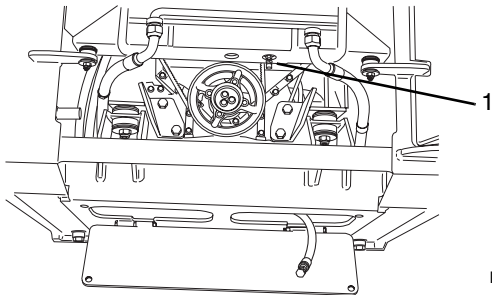

Figure 10-22 Radiator Petcock
2. Place a container under the radiator drain valve (Fig. 10-22, 1).
4. Open the drain valve (Fig. 10-22, 1) and allow coolant to drain into the container.
6. Close the drain valve (Fig. 10-22, 1).